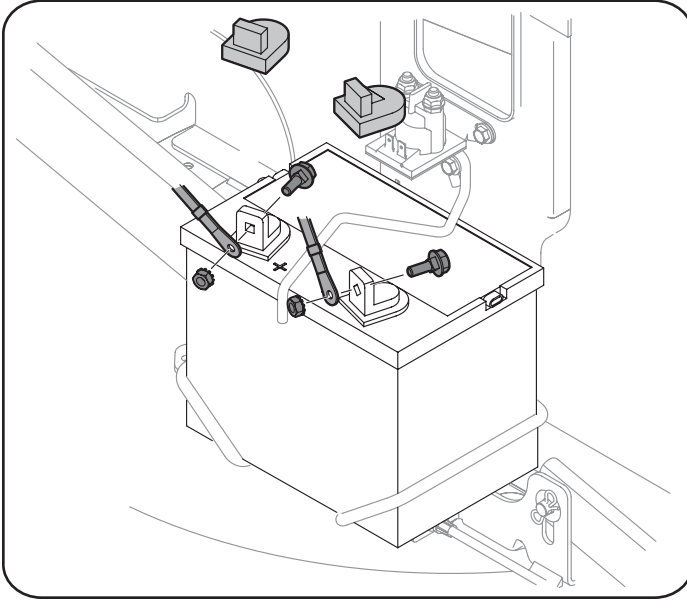

Figure 15
- Remove the plastic cover, if present, from the negative battery terminal and attach the black cable to the negative battery terminal (–) with the remaining hex bolt and hex nut, using a 7/16 inch wrench and socket wrench. See Figure 15.